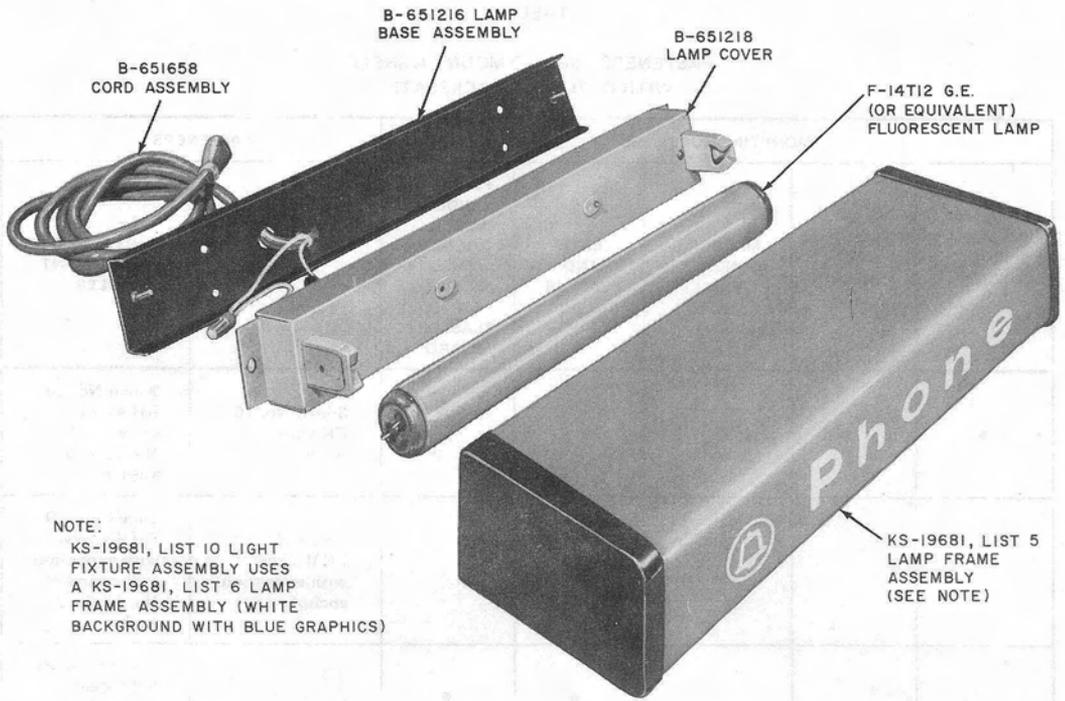

Fig. 7—KS-19681, List 9 Light Fixture Assembly
*The KS-19681, L9 or L10 illuminated sign can be ordered separately. Refer to Fig. 7 for component parts.
3.19 The KS-19681, Lists 9 and 10 signs (Fig. 7) must be disassembled as shown and installed as follows: